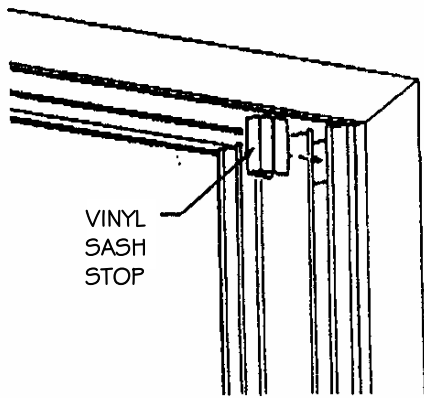

FIGURE 7
8. Install vinyl sash stops as follows: One on each side in the interior track at the top of each jambliner. See Figure 7.